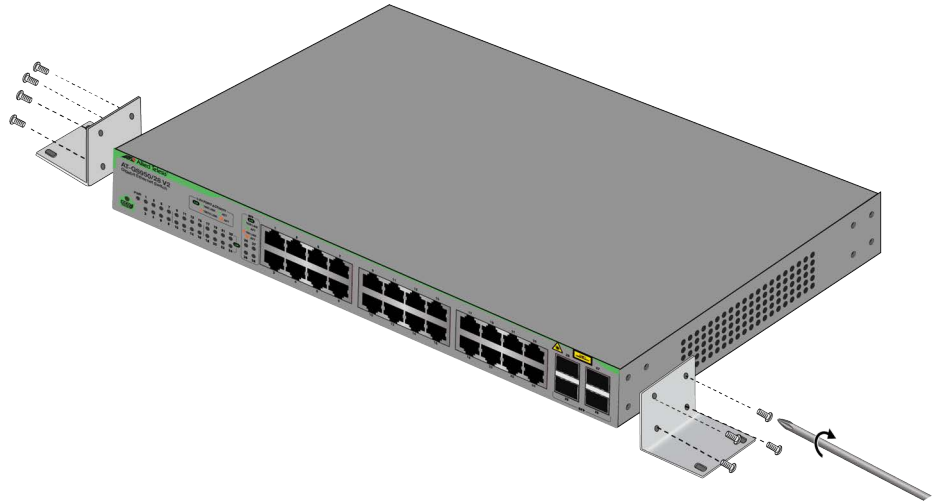

Figure 46. Attaching the Brackets to the Switch for Wall Installation
2. Install the two brackets to the sides of the unit with the eight screws that come with the switch. Refer to Figure 46 on page 68.